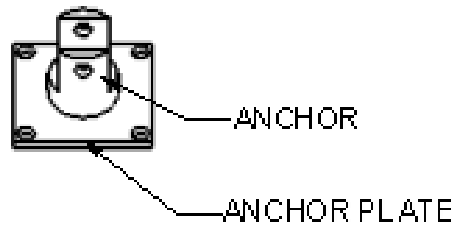
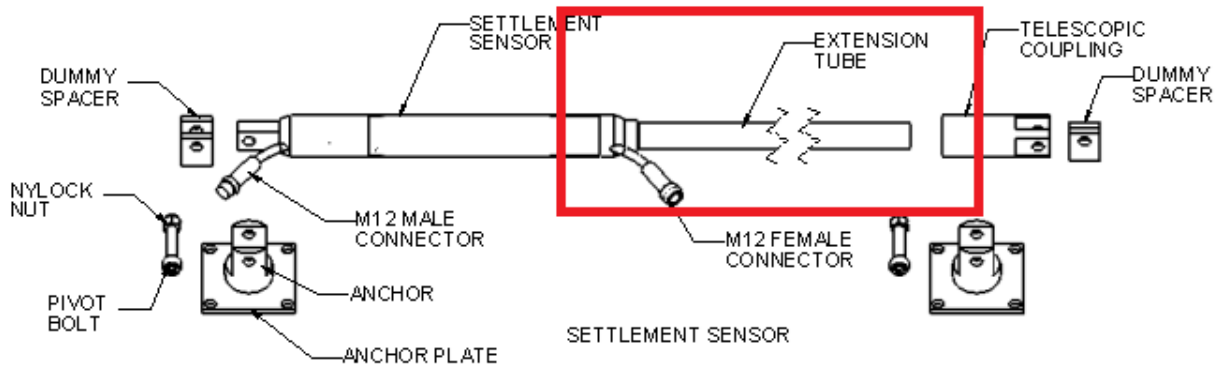

FIGURE 3-2 ANCHOR PLATE (DETAIL)
FIGURE 3-3 EXTENSION TUBE (DETAIL)
- 2 Lay all of the anchor plates (Figure 3-2) and instruments (Figure 3-3) along the track. The extension tubes are used to help space the anchor plates.